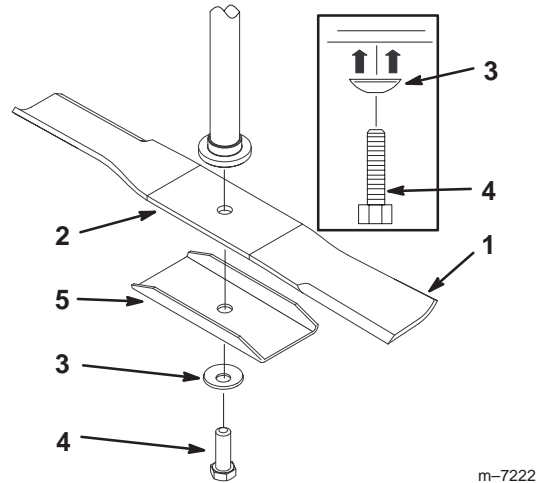
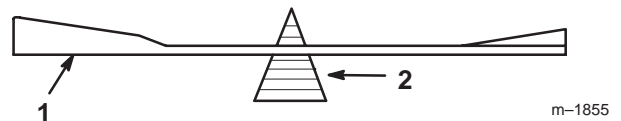

Figure 35
Figure 37
Hold the blade end using a rag or thickly-padded glove. Remove the blade bolt, curved washer, stiffener and blade from the spindle shaft (Fig. 35).
- Check the balance of the blade by putting it on a blade balancer (Fig. 37). If the blade stays in a horizontal position, the blade is balanced and can be used. If the blade is not balanced, file some metal off the end of the sail area only (Fig. 35). Repeat this procedure until the blade is balanced.
1. Install the blade onto the spindle shaft with the stifener (Fig. 35).
2. Install the curved washer (cupped side toward the blade) and blade bolt (Fig. 35). Torque the blade bolt to 35–65 ft-lb (47–88 N·m).